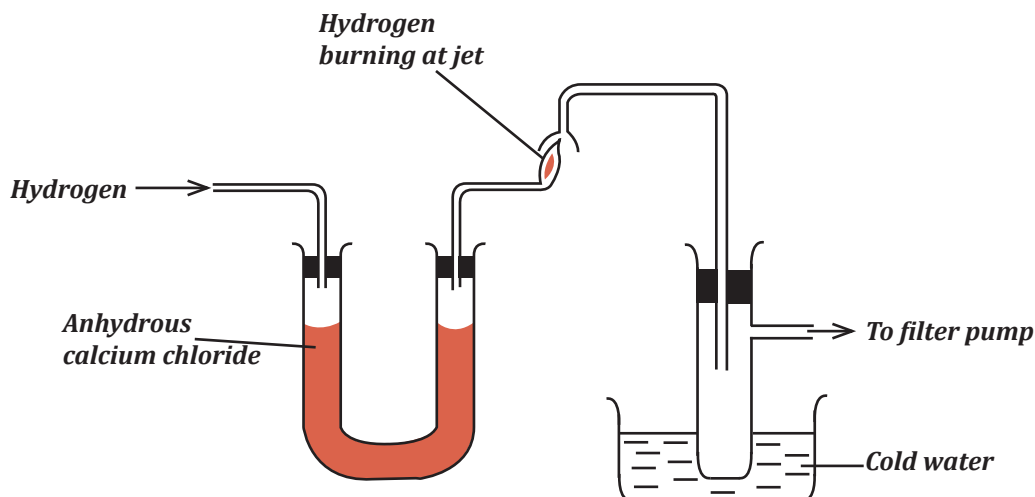

Fig. 10.3 Synthesis of water
4. Assemble the rest of the apparatus as shown in figure 10.3 below.